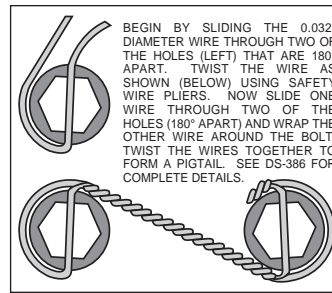
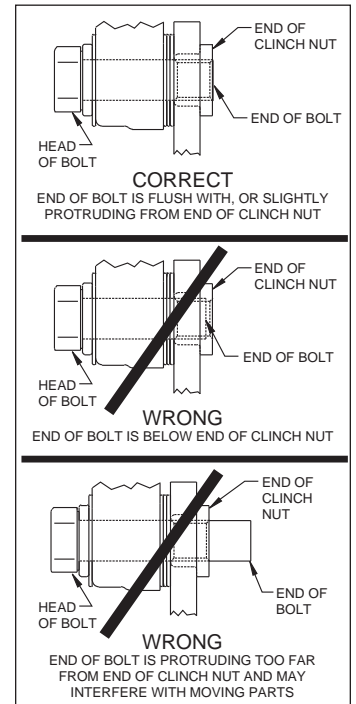

Figure 3. Safety Wire Diagram
Figure 4. Clinch Nut Engagement Diagram
Assembly Instructions (numbers in parenthesis refer to the parts list, on the preceding page and Figure 1): **CAUTION:** All mounting bolts must fully engage clinch nuts. Be sure to check that all bolts are either flush or protruding through flanged side of clinch nut after shimming, Figure 4.
•Install wheel studs (3) into the hub (4), Photo 3. Torque to 77 ft-lb. **NOTE:** There are two five lug patterns in the hub (5 x 4.50 and 5 x 4.75). Ensure the correct hub stud pattern is being used to fit the wheel application.
•Pack the large inner bearing cone (5) with high temperature disc brake bearing grease (available from your local auto parts store) and install into the backside of the hub (4), Photo 4.
•Install the grease seal (6) by pressing into the backside of the hub (4), flush with the end of the hub, Photo 4.
•Orient the rotor (8) and the rotor adapter (7) as shown in Figure 1 and Photo 5. Attach the rotor to the adapter using bolts (9). Using an alternating sequence, apply red *Loctite*® 271 to the threads, and torque to 25 ft-lbs. Safety wire bolts using standard 0.032 inch diameter stainless steel safety wire as shown in Figure 3. Refer to Wilwood's data sheet DS-386 (available at www.wilwood.com/Pdf/DataSheets/ds386.pdf) for complete safety wire installation instructions.
- Pack the small outer bearing cone (11) with high temperature disc brake bearing grease and install into hub (4). Slide the hub/rotor assembly onto the spindle. Secure using spindle washer (12) and OEM spindle nut, Photo 7. Adjust bearings per OEM specifications. Install saved OEM nut lock (if any) and a new cotter pin (not included).
- Screw dust cap (13) into hub (4), Photo 8. Friction created by the o-ring (14) on the dust cap keeps it from unscrewing. **NOTE:** The O.D. of the existing OEM spindle washer may be larger than the I.D. of the dust cap not allowing it to seat against the hub face. Therefore, use the spindle washer (12) supplied with the kit instead of the OEM washer.
- NOTE:** Please reference the caution statement at the beginning of the assembly instructions. Mount the caliper (15) onto the caliper mounting bracket (1) using bolts (16) and washers (17), as shown in Figure 1. Initially place one .035" thick shim (18) on each bolt between the caliper and the bracket, Photo 9. Temporarily tighten the mounting bolts and view the rotor (8) through the top opening of the caliper. The rotor should be centered in the caliper, Photo 10. If not, adjust by adding or subtracting shims (18) between the bracket and the caliper. Always use the same amount of shims on each of the two mounting bolts. **NOTE:** The end of each bolt must be flush with or slightly protruding from the head of the clinch nut, as shown in Figure 4. If necessary place spare shims (18) between washer (17) and caliper mounting ear to achieve the proper clinch nut engagement. Once the caliper alignment and clinch nut engagement are correct, remove the bolts one at a time, apply red *Loctite*® 271 to bolt threads, and torque to 40 ft-lb. For an added measure of security, the bolts may be safety wired using standard 0.032 inch diameter stainless steel safety wire as shown in Figure 3. Refer to Wilwood's data sheet DS-386 (available at www.wilwood.com/Pdf/DataSheets/ds386.pdf) for complete safety wire installation instructions.
- Install the disc brake pads (19) into the caliper, with the friction material facing the rotor (8), Photo 11, and secure in place using cotter pin (20), Photo 12.